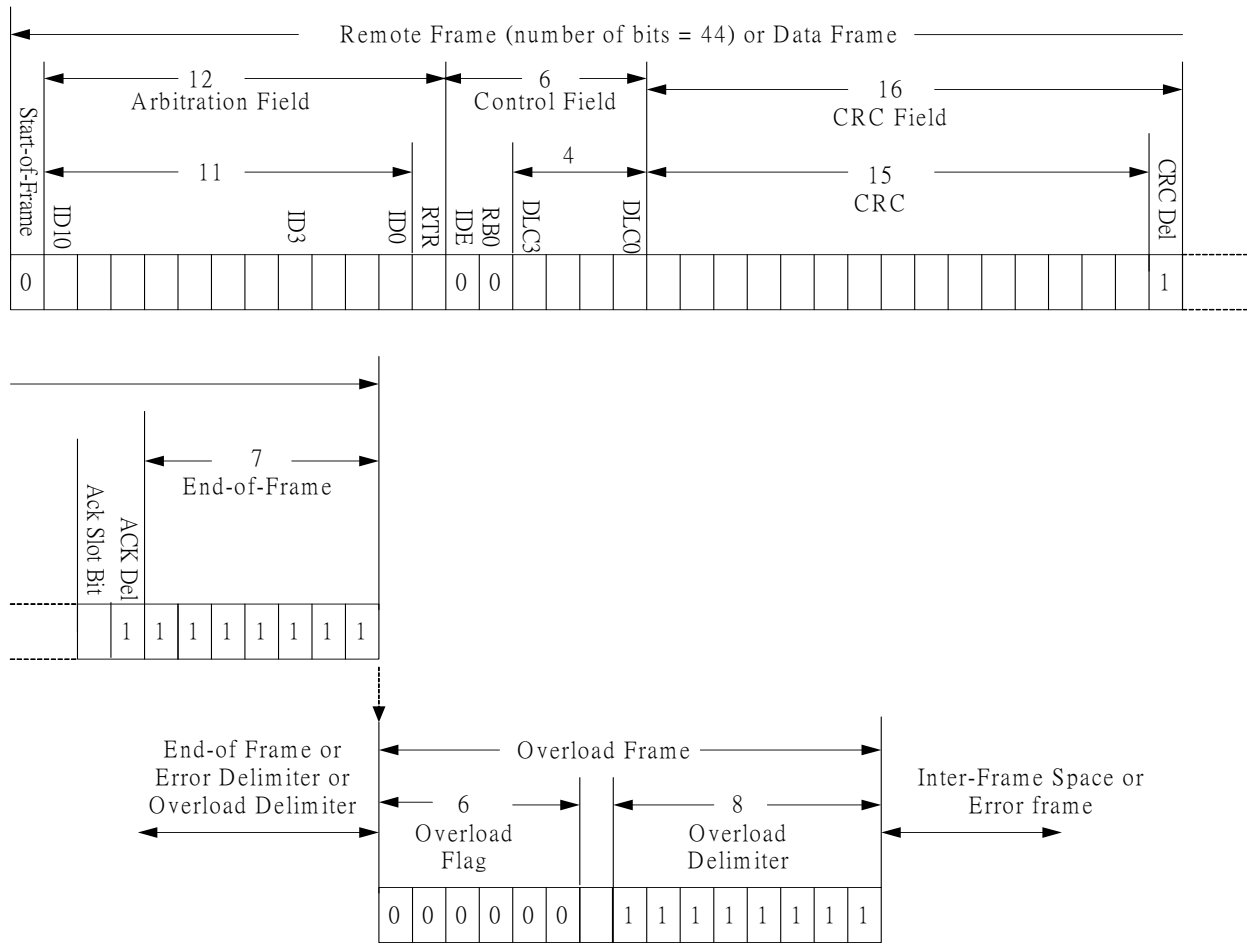

Figure 121: CAN Overload Frame Format
- Support 4 message types, Data frame, Remote frame, Error frame and Overload frame, as shown in Figure 117 ~ Figure 121. Data frame and Remote frame are processed by software; Error frame and Overload frame are processed by hardware